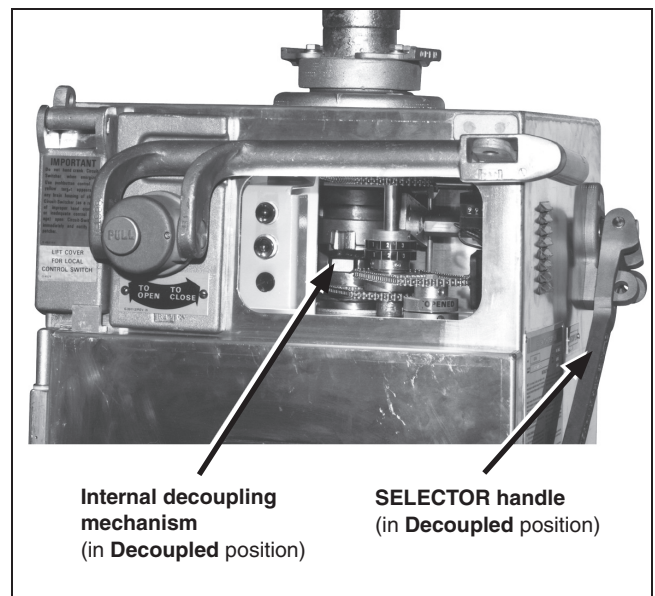

Figure 6. Mark VI CS-1A Switch Operator in the Decoupled position.
- STEP 3.** Look through the observation window to verify whether the internal decoupling mechanism is in the **Decoupled** position. See Figure 6.